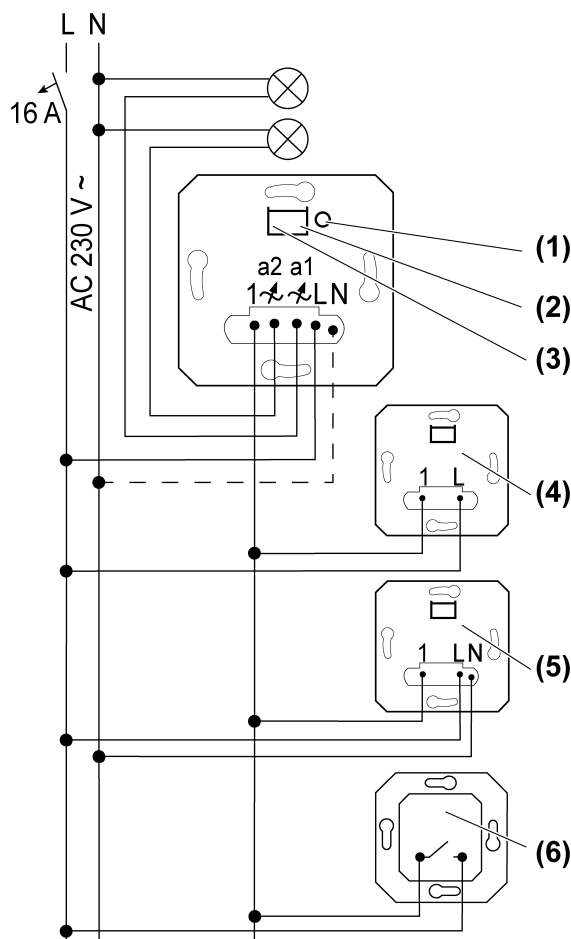

Figure 1: Connection diagram with optional extension units
- Press the **Dimming mode** button (1) for longer than 4 seconds, until the LEDs (2) and (3) light up (Figure 1).